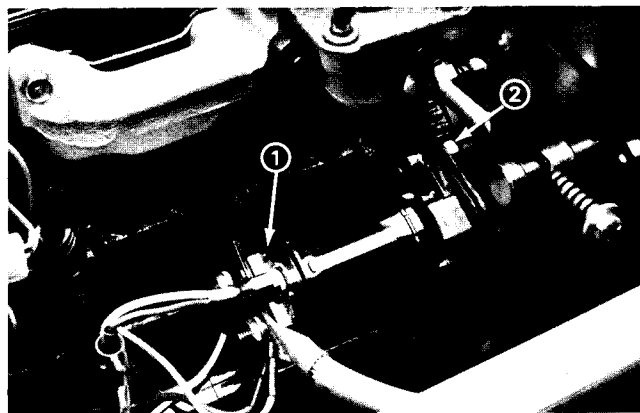

Figure 27
2. Disconnect the wires from the starter solenoid (Fig. 27).